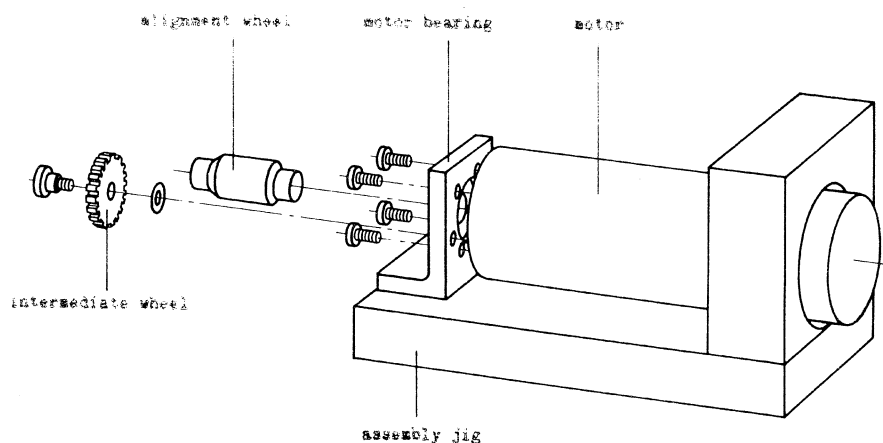

Fig. 2.1
2. Screw the motor bearing to the new motor with the four screws, which should not be tightened. Insert the motor in the assembly jig 08-27.30-116 W1 (see Fig. 2.1).